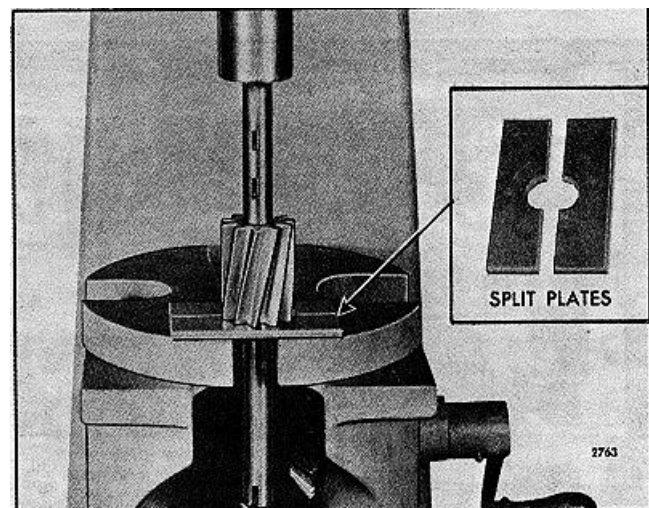

FIG. 5 - Pressing Oil Pump Gear From Shaft
6. If inspection reveals replacement of gears is necessary, use an arbor press and sleeve to press the pump gears from the shafts. Press the gears off the scavenging pump end of the shafts (Fig. 5). Remove the keys from the keyways in the shafts.